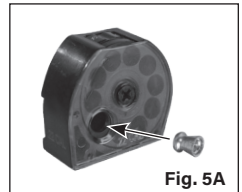

Fig. 5A
3. Insert the pellet head first into the front of the magazine (Fig 5A). Make certain the pellet does not protrude out the back of the magazine. In the event the pellet does protrude, simply push the pellet inward.